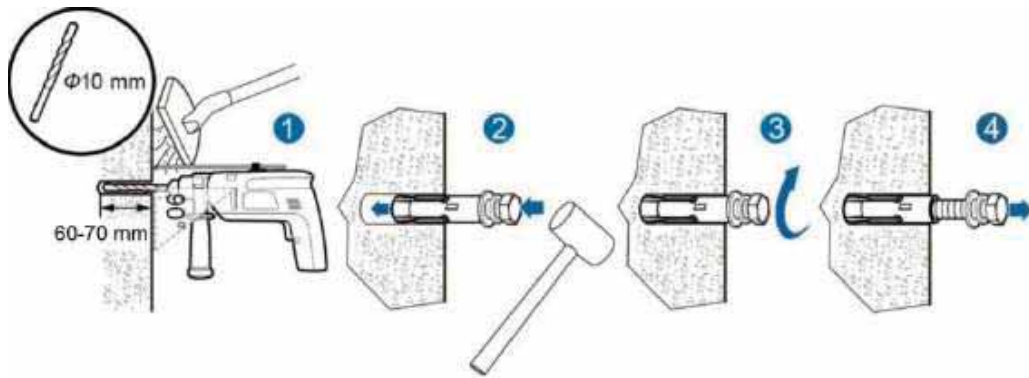

Figure 4.9 Install expansion bolts
(3) Fix the expansion bolts to the 4/6 installation holes with hammer, as shown in Figure 4.9.